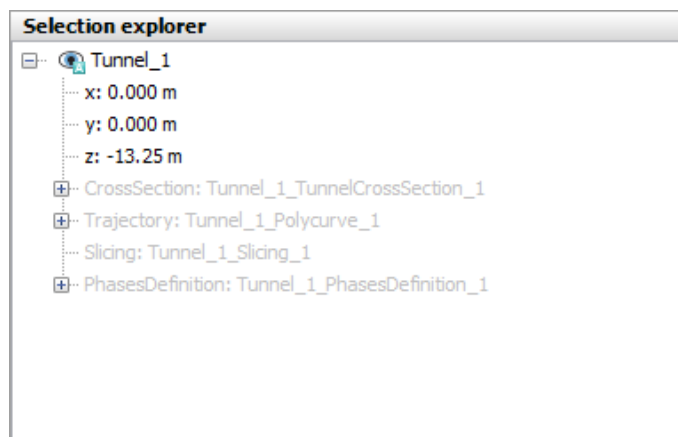

Figure 5–3: Insertion point of the tunnel
- 4 While keeping the **Tunnel designer** window open. Go to the PLAXIS **Selection explorer**. In the newly created tunnel object set the insertion point to (0 0 -13.25) as shown in Figure 5–3 \(p. 86\) .